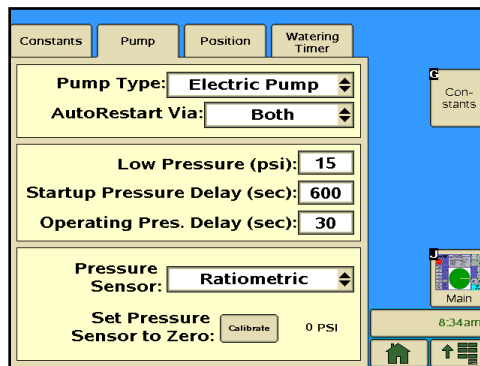

Figure 28-1 1. Low Pressure Field
Low Pressure is used to set the water pressure minimum that must be met before the machine runs or continues running. Refer to Figure 28-1.
1. Push **Setup, Constants, Pump** to display the Low Pressure settings. Refer to Figure 28-1.
Startup Pressure Delay bypasses the pressure transducer for the amount of time required in seconds for the machine to initially build water pressure above the low pressure limit after the pump has been started. The Startup Pressure Delay setting has a range of 0 to 5000 seconds. The factory default is set to 600 seconds, or 10 minutes. Refer to Figure 28-1.
Operating Pressure Delay is active only after the Startup Pressure Delay time setting has expired. The operating pressure delay is the amount of time in seconds that the machine continues operating after pressure drops below the low pressure limit. The operating pressure delay has a range of 0 to 5000 seconds. The factory default is set to 30 seconds of continuous pressure loss. The operating pressure delay is reset when pressure rises above the low pressure limit. Refer to Figure 28-1.